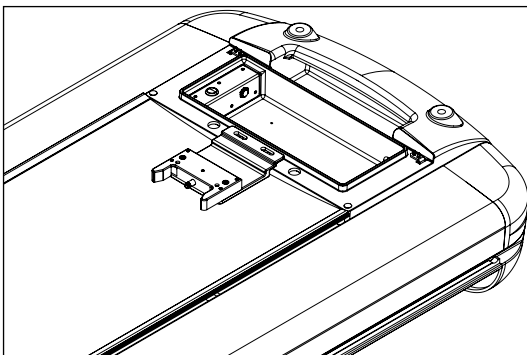
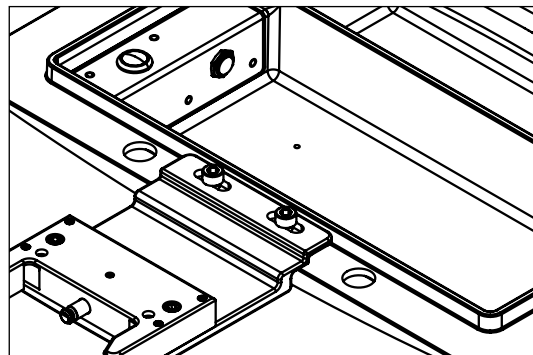

Fig. 5
Fig. 6
3. Secure the Foot Latch Assembly to the cradle using (2) M8 Split Lock Washers and (2) M8 bolts into the CT Cradle (Fig. 5 and Fig. 6).